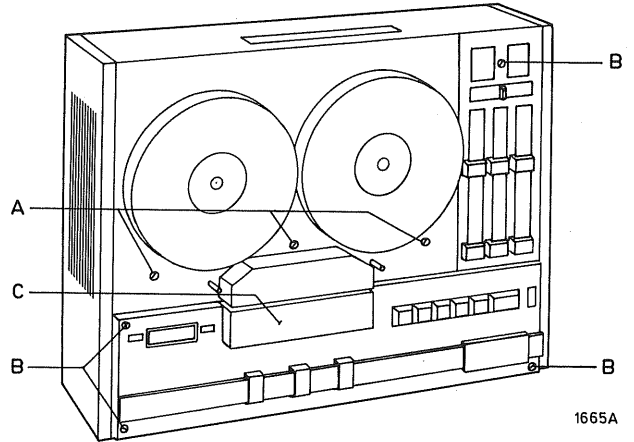

Fig. 1
DISASSEMBLY (see Figs. 1, 2 and 3)
- The black covering plate can be taken off after removing the 3 screws. A. For replacing the heads, pinch roller etc. the front head cover C should also be removed. (see Fig. 1).